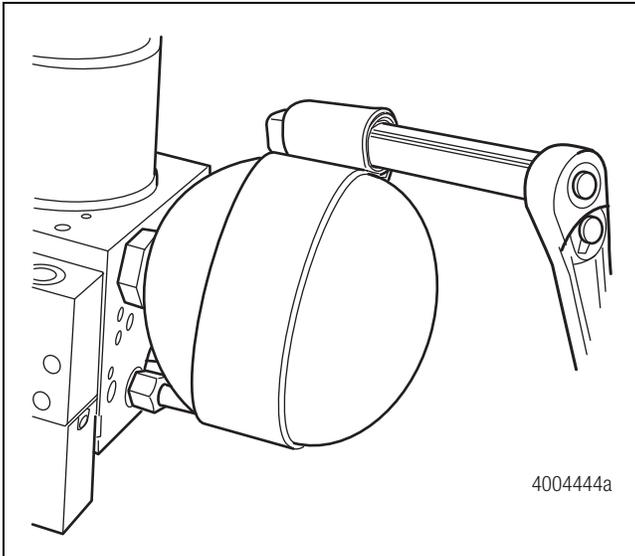

Figure 4.15
- Use a strap wrench to remove the accumulator. The accumulator has a right-hand thread. Figure 4.15.